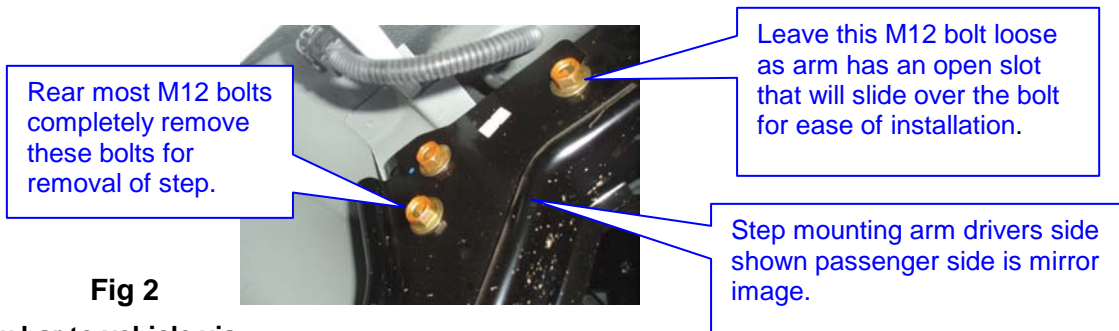

Fig 2
- c. Completely remove the two rears most M12 bolts on the side of chassis rails so that the step can be removed from the vehicle see fig 2.
- Offer step to the vehicle so to align the mounting arms of the step with the M12 bolts as shown in fig 2.